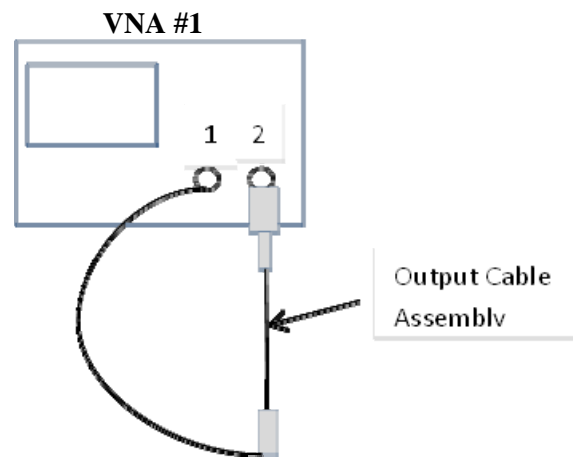

Figure 2: Insertion Loss Measurement Setup
2. Use the VNA to test the Output Cable Assembly, the setup is shown above in Figure 2. Your output cable assembly will consist of a cable and 6 dB pad, to remain together for the duration of the experiment. This assembly will be connected to the mixer output (IF port). Record the insertion loss at the frequencies shown in Table 1.